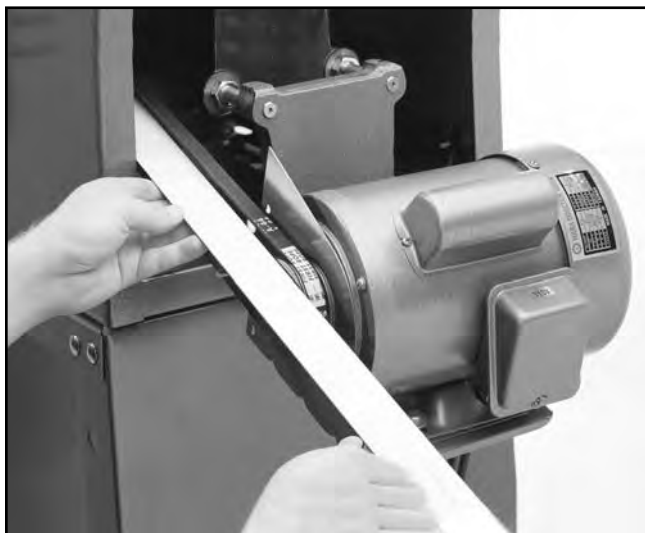

Figure 19. Checking V-belt alignment.
7. Place a straightedge across the arbor pulley and the motor pulley. The straightedge should run across both pulleys evenly as shown in **Figure 19**. Adjust the motor on its mount until pulleys are aligned, then tighten all the mounting bolts.